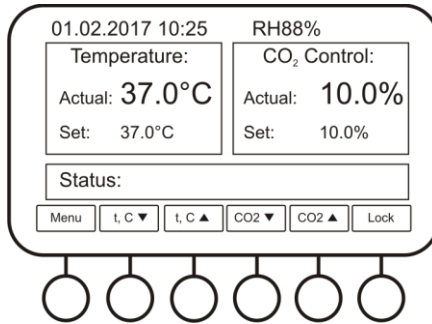

Figure 1.
- 5.2 After initialization, display (fig. 1) shows: